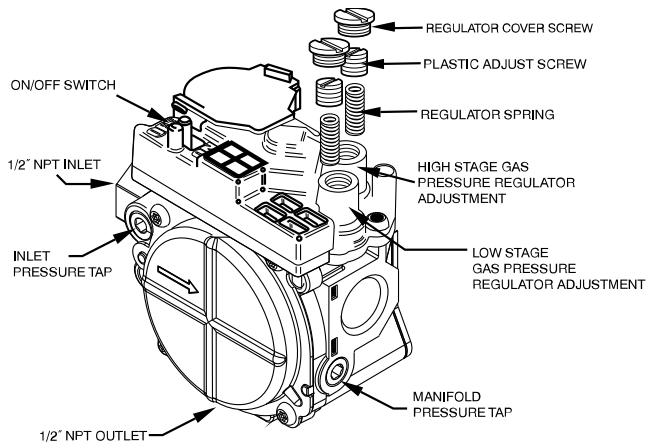

Fig. 37 – Two-Stage Gas Valve (208/230 VAC Models)
1. Remove regulator cover screw(s) over plastic adjustment screw(s) on gas valve (see Fig. 37).
2. Turn the high stage plastic adjustment screw clockwise to increase gas input and counterclockwise to decrease input (see Fig. 37). Manifold pressure must be between 3.2 and 3.8 IN. W.C. for high stage.
3. Replace high stage regulator cover screw on gas valve (see Fig. 37).
4. Turn the low stage plastic adjustment screw clockwise to increase gas input and counterclockwise to decrease input (see Fig. 37). Low stage manifold pressure must be between 1.4 and 2.0 IN. W.C.
5. Replace low stage regulator cover screw(s) on gas valve (see Fig. 37).